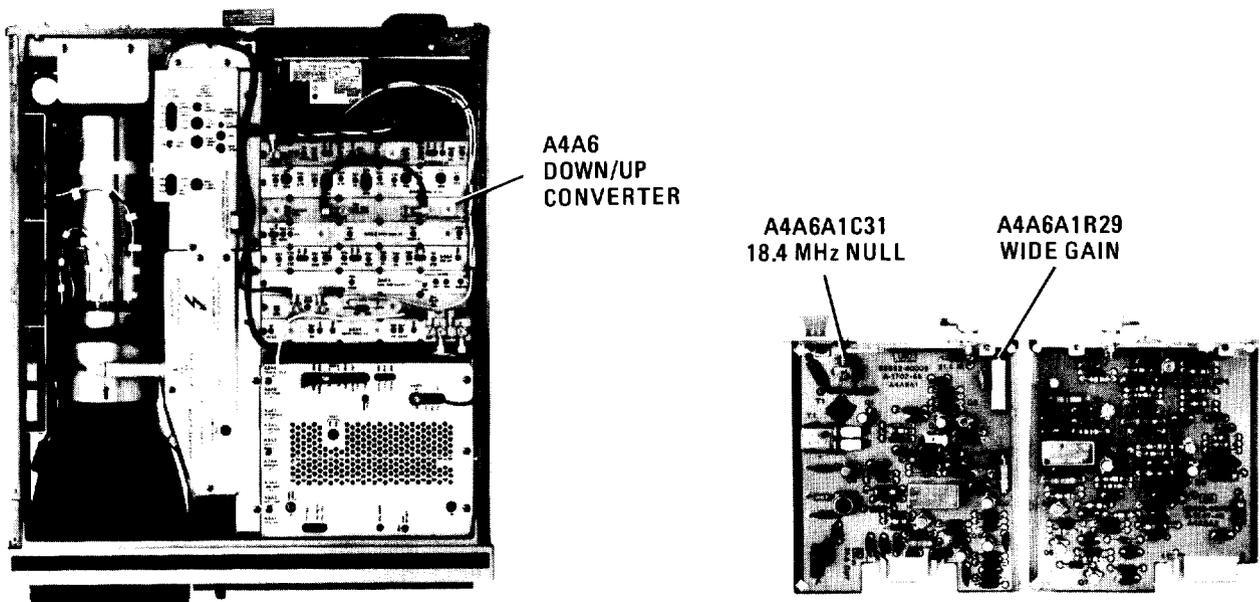

FIGURE 37. LOCATION OF DOWN/UP CONVERTER ADJUSTMENTS
6. Adjust A4A6A1R29 WIDE GAIN to align markers on CRT display. MKR Δ level should indicate 1.00 X. Refer to Figure 37 for location of adjustment.
11. Adjust A4A6A1C31 18.4 MHz NULL to null the 18.4 MHz Local Oscillator signal and all displayed harmonics. Refer to Figure 37 for location of adjustment.